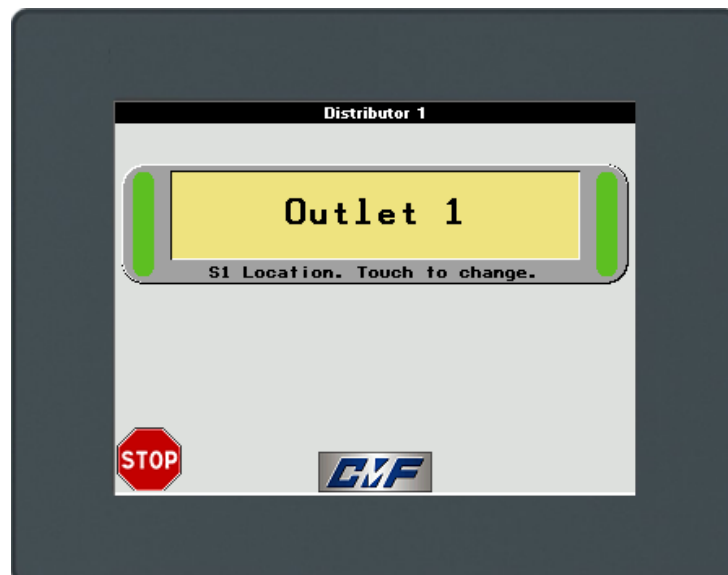

Fig. 4: Home screen
- 3.2.2 Once the operator closes the welcome screen, the HMI will display the “Home” screen (Fig 4). From the “Home” screen, the operator can see the current position of the inner spout(s) and access other screens by interacting with the buttons.